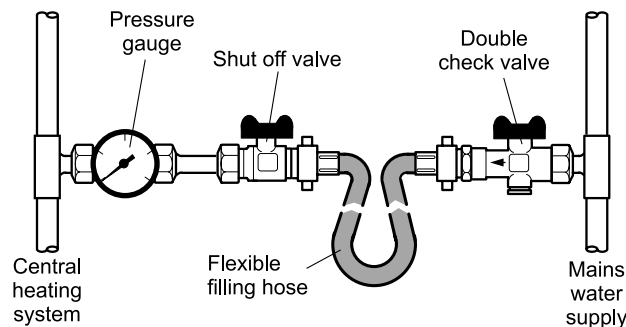

Fig. 15b
- 8 The filling loop kit and pressure gauge supplied, should be located in a convenient and easily accessible position inside the house, where the gauge will be visible to the User (see Fig. 15b).
- 10 The filling loop kit and pressure gauge supplied should be located in a convenient and easily accessible position inside the house, where the gauge is visible to the User, see Fig. 15b, as follows: